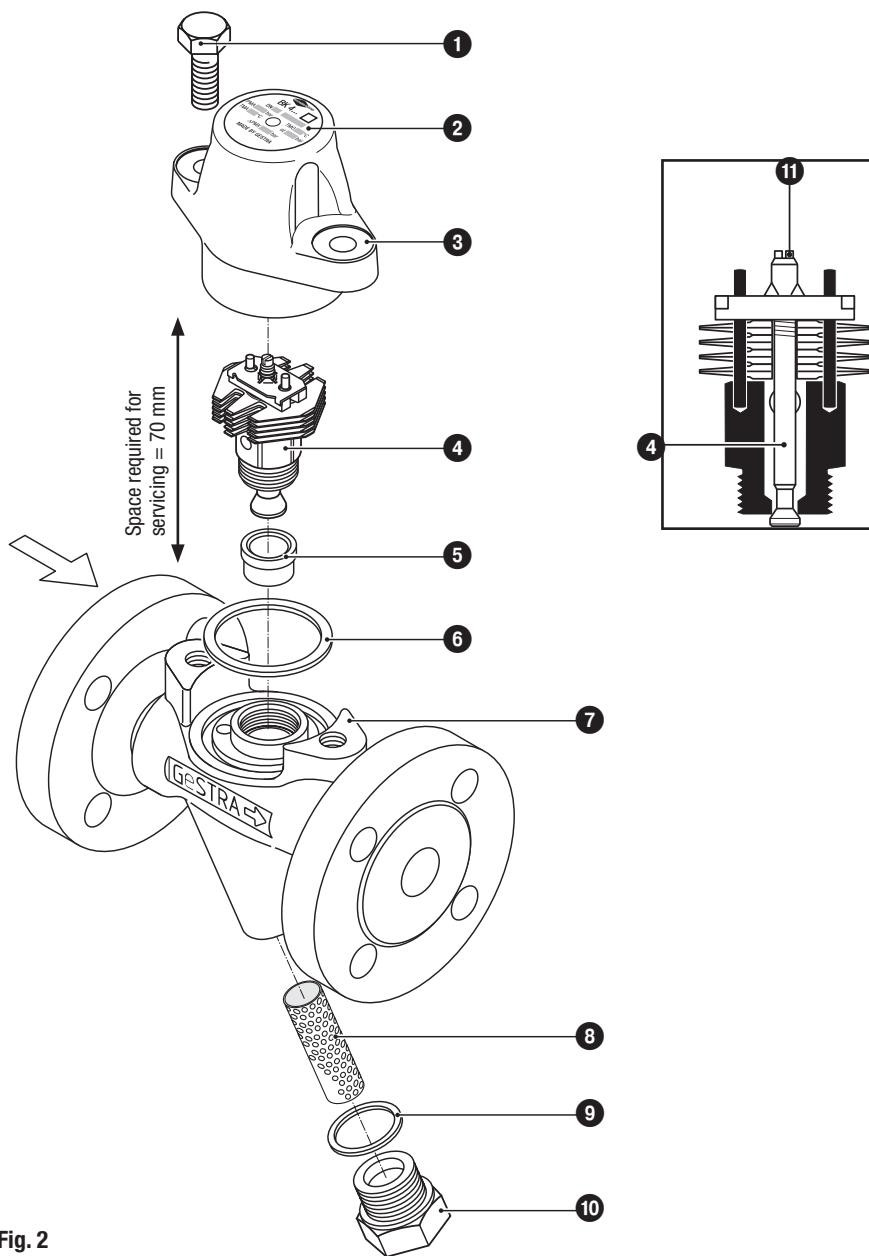

Fig. 2
1. Unscrew body screws **1** and remove cover **3** from body **7**. **Fig. 2**
1. Unscrew body screws ❶ and remove cover ❸ from body ❷. **Fig. 2**
2. Wait until regulator ❹ is cooled down to ambient temperature.
2. Unscrew and clean Thermovit regulator ❹.
3. Discard and replace Thermovit regulator ❹ in case of visible signs of wear or damage (see table **List of Spare Parts**).
7. Gasket ❸ **must** be discarded and replaced if there are visible signs of damage. Use the same cover ❸. Always discard and replace gasket ❸ when using a new cover ❸ or the cover of another steam trap (see table **List of Spare Parts**).
8. Put cover onto body. Tighten body screws ❶ alternately and in several steps with the torque indicated in the table **Tightening Torque**.
1. Unscrew sealing plug ⑩ and strainer ⑧. **Fig. 2**
4. Discard and replace gasket ⑨ if damaged (see table **List of Spare Parts**).
6. Unscrew sealing plug ⑩ with gasket ⑨ and strainer ⑧. Screw in sealing plug and tighten it with the torque indicated in the table **Tightening Torques**.